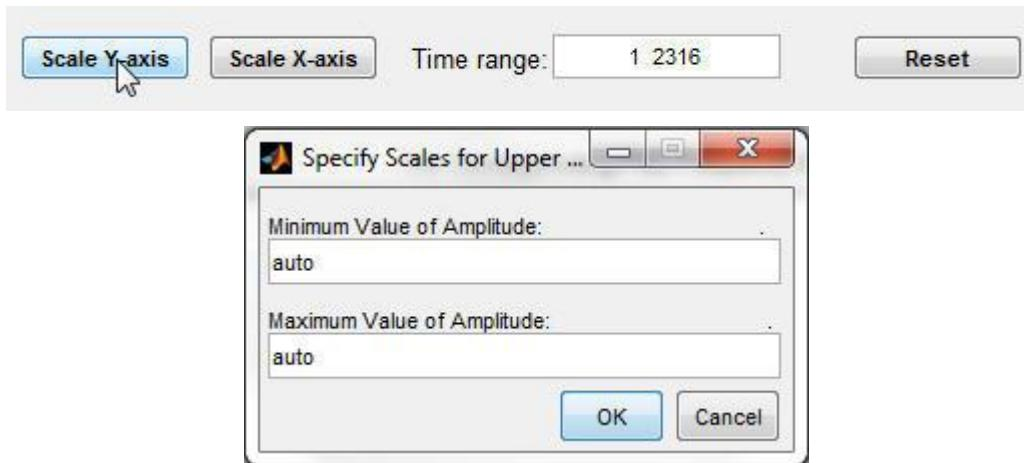

Figure 5-13. Rescaling the data amplitude.
You can rescale the vertical axes, by using the **Scale Y-Axis** buttons. By default, each data channel's time series is scaled to its own minimum and maximum values. In contrast, using a **Scale Y-Axis** button will apply a user-defined scale range to all the channel-based time series plots in the specified data set. Shown in Figure 5-13, 5-14 and 5-15 are examples of using the scaling function for rescaling the amplitude.
- Directly type the starting and ending times for the interval that you want to delete into the Time range: number field (Figure 5-13, top).
- Click on the Scale X-axis button (Figure 5-13, top) to activate plot-window crosshairs, which you will then use to select the starting and ending times by clicking on them.